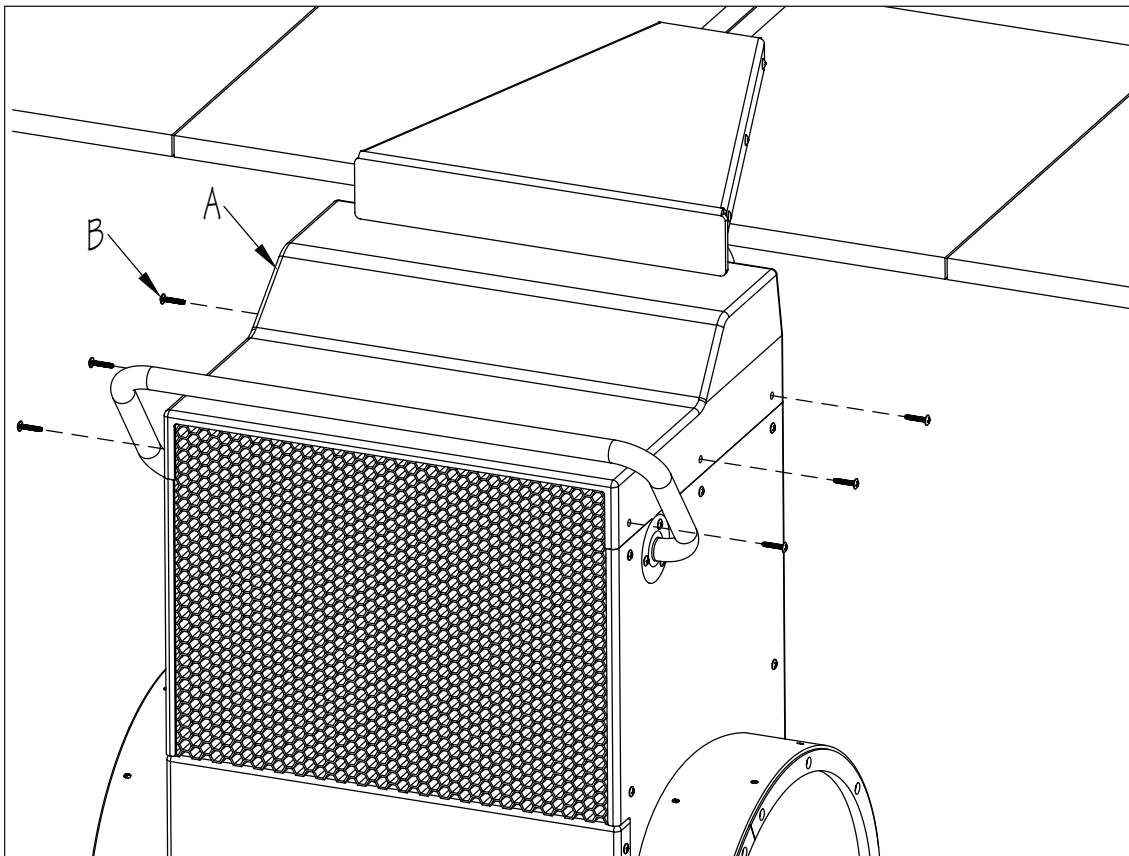

Fig. 25
6. Attach the Top Lid (A) using the 1" Phillips Truss Head Screws (B) (Fig. 25).